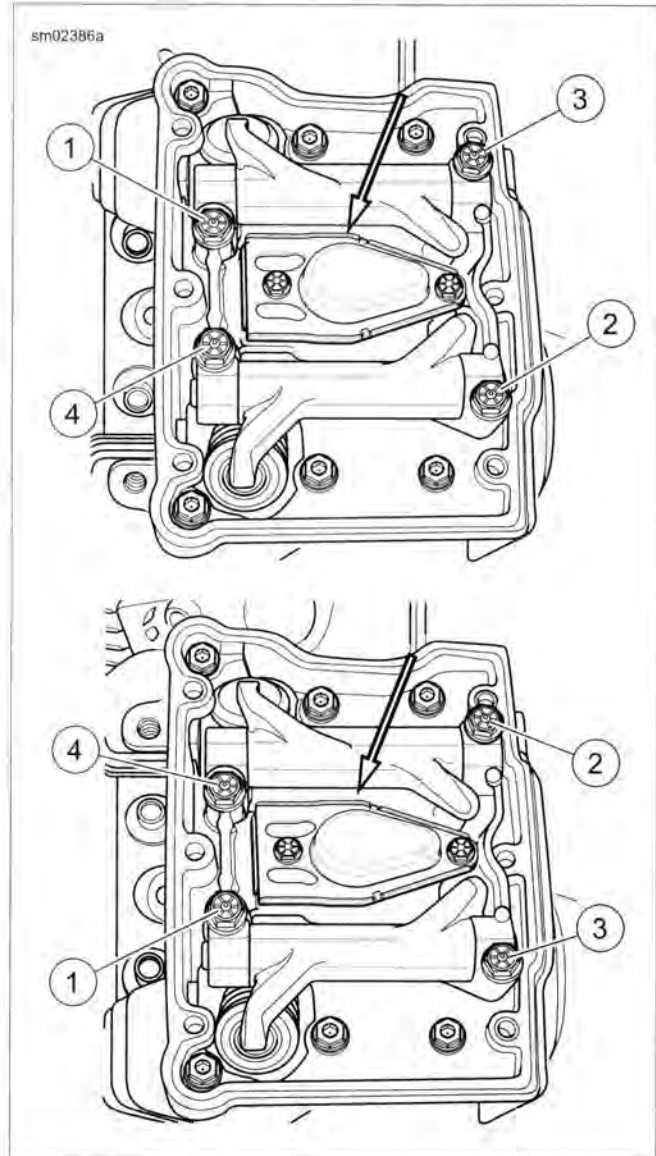

Figure 3-15. Rocker Arm Support Tightening Sequence
3. See Figure 3-15. Remove breather assembly (arrow) and filter element from the rocker arm support plate. For